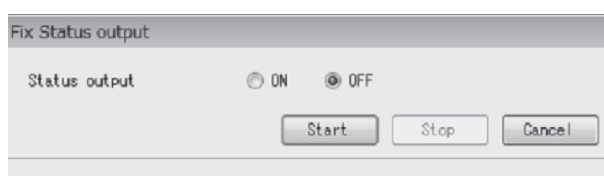

Fig.132
- ② The following window will be displayed (Fig. 132). Select either "ON" or "OFF" for the simulated output state, and then click the "Start" button.
Click the "Cancel" button to return to the window shown in Fig. 132.
- ⑥ Clicking the "OK" button would return the interface to the window shown in Fig. 132, so click the "Cancel" button to exit "Fix Status output".